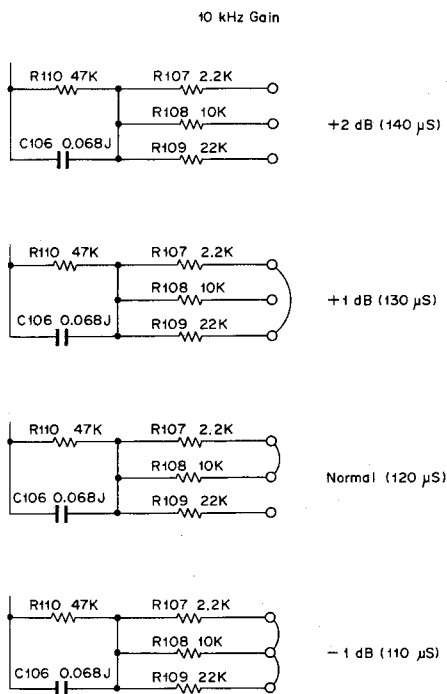
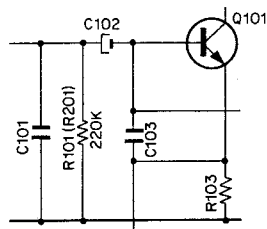

Fig. 7.18 Playback Equalizer Adjustment
Fig. 7.19 PB Head Amp. Peaking Compensation
- (1) Open 22 k Ω of R109,209 of the PB Head Amp. P.C.B. (EQ and time constant shall show 120 μ s).
- (2) Load a 400 Hz Level Tape (DA09005A) to playback, and turn the output level controls till the indication of the VTVM shows 0 dB (for example) or easy reference of value.
- (3) Load a 10 kHz PB Frequency Response Tape (DA09003A) and play it back.
- (4) Check the output of 10 kHz and then, referring to Fig. 7.18, adjust EQ in the range of 110 μ s – 140 μ s, the result of which shall be 0 to + 3 dB.
- (5) Load a 15 kHz PB Frequency Response Tape (DA09002A) and play it back.
- (6) If the output of 15 kHz shows the value within \pm 2 dB against 400 Hz Level Tape, it is considered satisfactory.
- (7) Load a 20 kHz PB Frequency Response Tape (DA09001A) and play it back.
- (8) If 15 kHz at (5) shows the value within \pm 2 dB and 20 kHz being less than -3 dB, replace the playback head.
- (9) Adjustment shall be made so that the level at 10 kHz, 15 kHz and 20 kHz will become flat when compared with 400 Hz.
(10) If the results are shown to belong to high, set R101,201 to open – 100 k Ω . Refer to Fig. 7.19.
(11) Adjust the azimuth alignment to the maximum output with a 15 kHz Azimuth Tape (DA09004A).